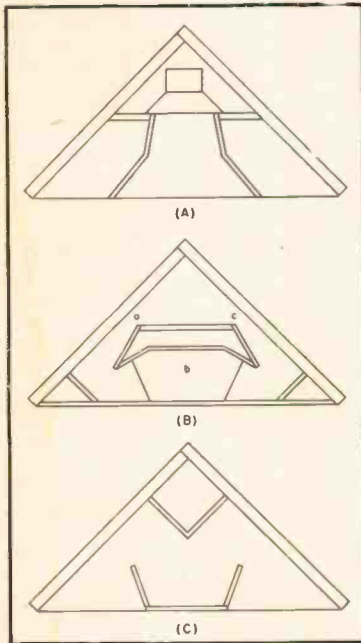

Fig. 3. Details of top (A), center (B), and bottom (C) sections of the duplex-horn speaker.
For the sake of clarity some of the details are omitted from Fig. 2 and are shown in Fig. 3. (A) in Fig. 3 shows
The functions of the various partitions can best be explained by tracing the path of the low-frequency horn. As shown in (B) of Fig. 3, the throat is in two parts: one half is at *a*, the other at *c*. The first portion of the horn consists of two parallel paths, from *a* to *b* and from *c* to *b*. The paths converge at *b* and immediately pass down into the bottom section through the hole at *b*. The horn then splits into two parallel paths, each of which opens separately at the front of the bottom section, as at (C) of Fig. 3.
The two vertical boards which comprise the outside "vee," Fig. 3 are cut from 3/4-in. plywood. The speaker mounting board is made of 1/2-in. plywood. All other partitions are 1/4-in. plywood. All joints are nailed, glued, and reinforced with cleats. A portion of the top is secured by screws to permit access to the cone. The resulting structure is very sturdy. The inside horn surfaces were given several coats of thin shellac and sanded between coats. The resulting surface is very hard. The internal damping of the wood partitions is sufficient to eliminate all but a trace of vibration.